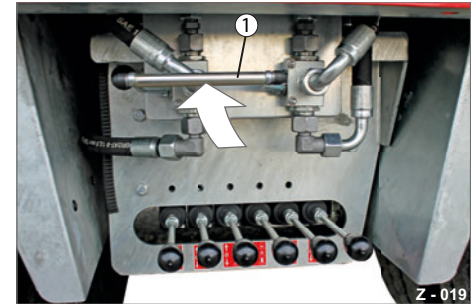

Abb. 25 Hydraulic feed "Towing vehicle"
- ▶ Flip the switch lever (Abb. 25/1) into horizontal position.